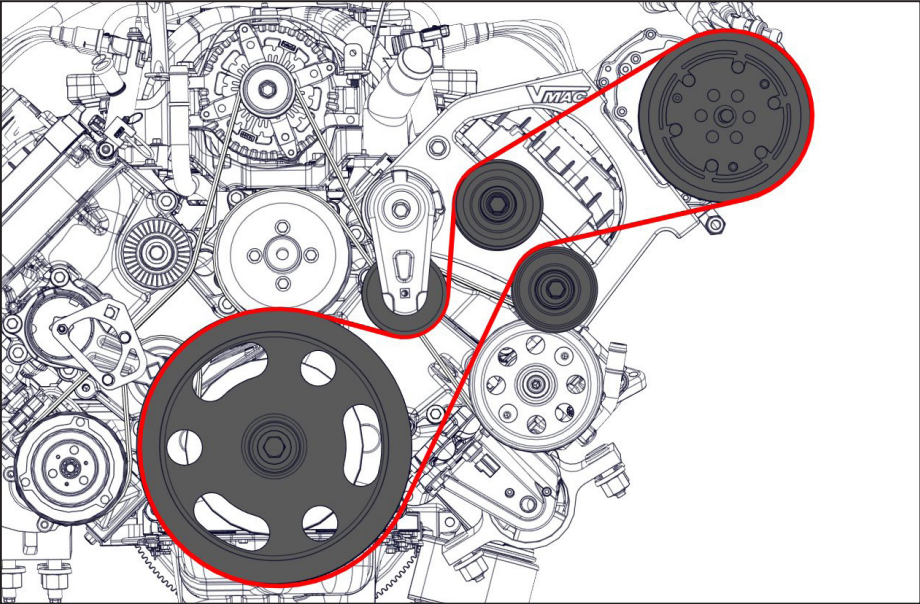

Figure 22 — Route VMAC belt
□ Install the VMAC drive belt (Figure 22).